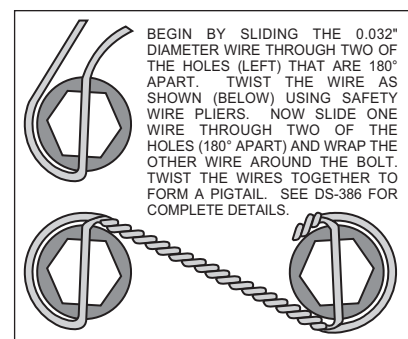

Figure 3. Safety Wire Diagram
- Apply red *Loctite*® 271 to bolt threads (2 and 4) before assembly of the caliper bracket (1) to backing plate face of spindle. Then install bolt (4) through caliper bracket (1), spindle face and the steering arm. Finger tighten the bolt (4) with lock nut (5). Install and finger tighten two bolts (2) with lock nuts (3). Torque two bolts (2) to 47 ft-lb. Torque bolt (4) to 140 ft-lb. **NOTE:** Be sure the heads of the caliper bracket (1) insert nuts are facing outward toward the wheel.
- Install five new wheel studs (6) into the hub (7). Torque to 77 ft-lb. **NOTE:** There are two five lug patterns in the hub (5 x 4.00 and 5 x 4.50). Make sure of the correct hole pattern for the correct wheel application before installing studs into hub.
- Pack the large inner bearing cone (8) with high temperature disc brake bearing grease (available from your local auto parts store) and install into the backside of the hub (7).
- Install the grease seal (9) by pressing into the backside of the hub (7).
- Attach rotor adapter (10) to rotor (11) using six bolts (12). Torque bolts (12) to 180 in-lb. Safety wire bolts (12) using standard 0.032 inch diameter stainless steel safety wire as shown in Figure 3. Please refer to Wilwood's data sheet DS-386 (available at www.wilwood.com/Pdf/DataSheets/ds386.pdf) for complete safety wire installation instructions.